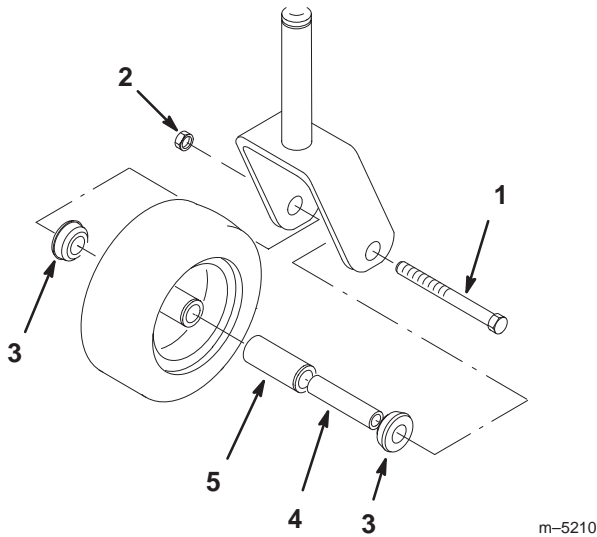

Figure 67
1. Remove the locknut and wheel bolt holding the caster wheel to the caster fork (Fig. 67).
2. Remove one bushing, then pull the spanner bushing and roller bearing out of the wheel hub (Fig. 67).
3. Remove the other bushing from the wheel hub and clean any grease and dirt from the wheel hub (Fig. 67).
4. Inspect the roller bearing, bushings, spanner bushing and inside of the wheel hub for wear. Replace any defective or worn parts (Fig. 67).
5. To assemble, place one bushing into the wheel hub. Grease the roller bearing and spanner bushing and slide them into the wheel hub. Place the second bushing into the wheel hub (Fig. 67).
6. Install the caster wheel into the caster fork and secure with the wheel bolt and locknut. Tighten the locknut until the spanner bushing bottoms against the inside of the caster forks (Fig. 67).